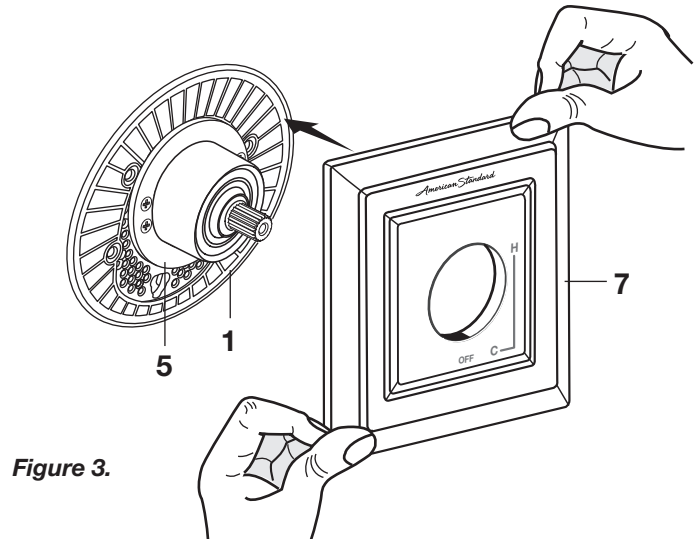

Figure 3.
- **Figure 3.** Install ESCUTCHEON (7) onto CAP (1) and push flush against finished wall. ESCUTCHEON (7) will snap fit onto ESCUTCHEON HOLDER (5).